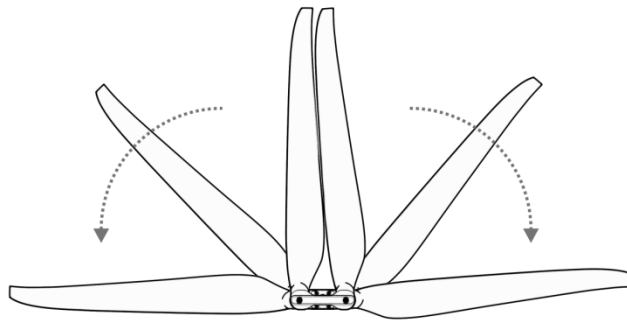

Figure 1-34 Unfold the Propellers
Step 4: Make sure the clamping component is tightened, as shown in Figure 1-34.